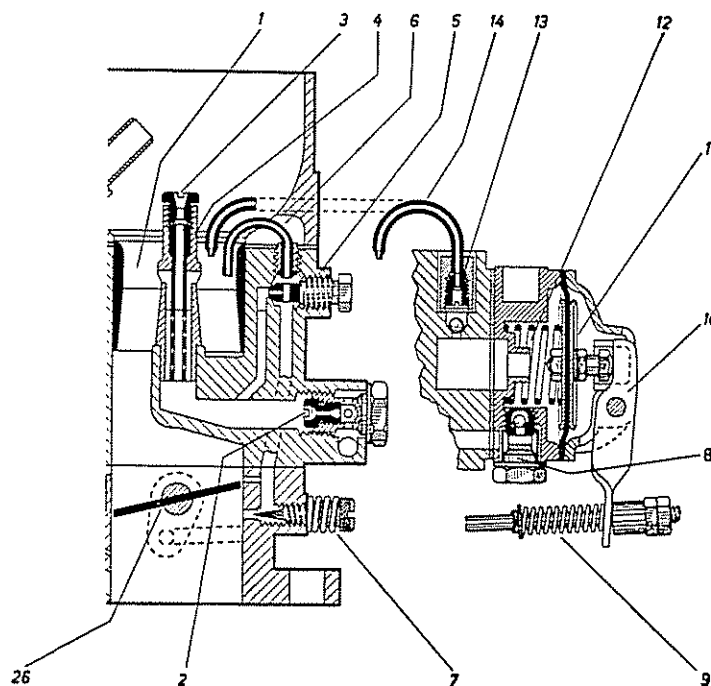

Fig. 07-0/19
During the injection the ball valve (8), which operates as a check valve, is closed. When the accelerator pedol is released, the diaphragm spring (12) presses the diaphragm (11) back. The ball valve (8) now operates as a through-way valve, whereas the ball valves below the bracket for the injection tubes (14) operate as check valves and prevent air from the carburetor suction canals from entering the pump system. (Fig. 07-0/19).